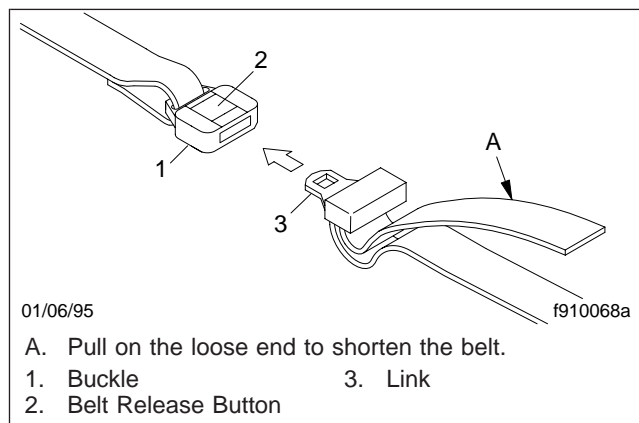

Fig. 5.12, Bunk Restraint Adjustment
3. After the belt is connected, shorten it by pulling on the loose end until the belt is snug, but comfortable. Be sure the belts are not twisted. See **Fig. 5.12**.